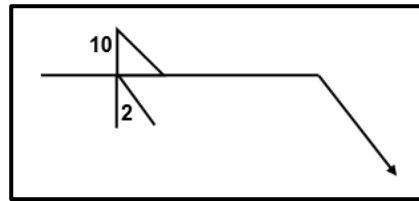

FIGURE 4.2
- (1)
4.2 What does the 10 on the weld symbol in FIGURE 4.2 below represent?